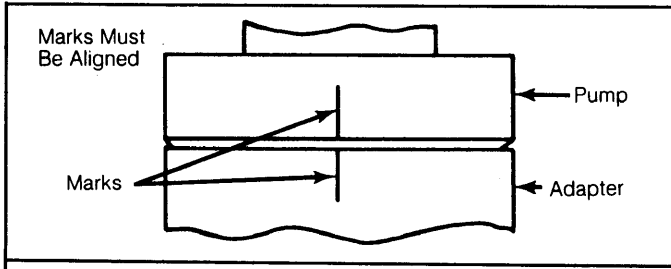

Fig. 2: Timing Marks on Injection Pump & Adapter
- 1) With engine off, loosen (3) pump retaining nuts.
- 2) Align mark on injection pump with mark (line) on adaptor and tighten nuts to 35 ft. lbs. See Fig. 2.